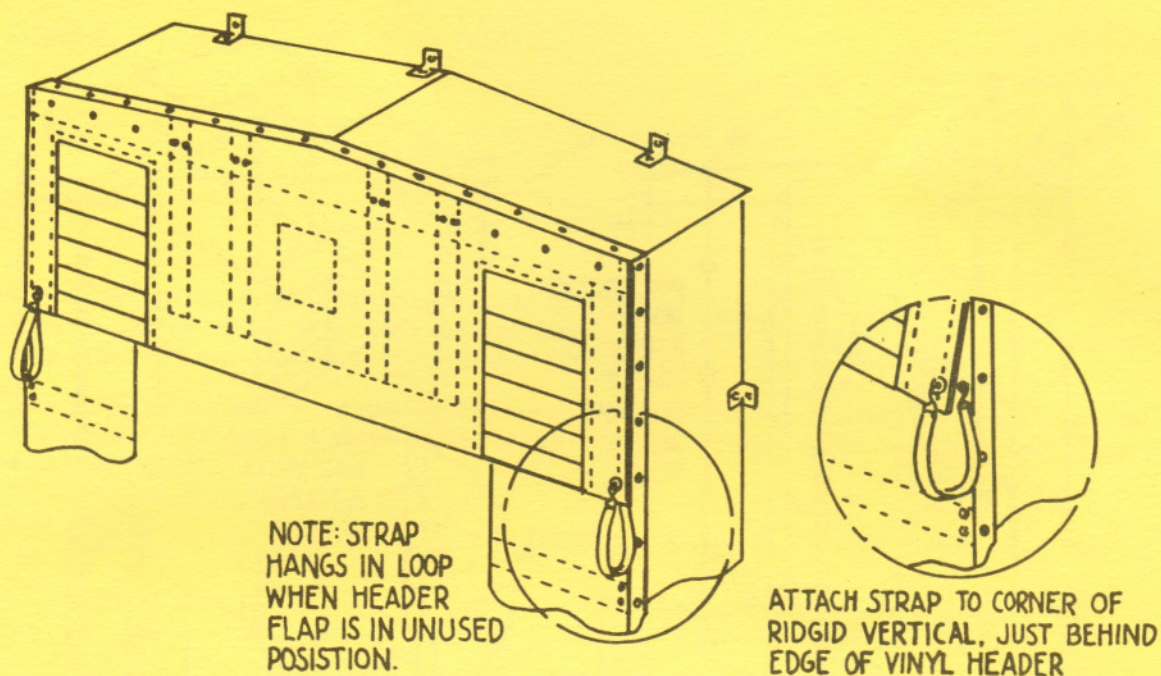

FIGURE 7. ATTACHING HEADER STRAPS
11. Attach the rubber straps that are connected to the bottom corners of vinyl header to the face of the rigid verticals, directly under the corners. Note that the strap hangs in a loop when the header is close to the rigid verticals (see Fig. 7).